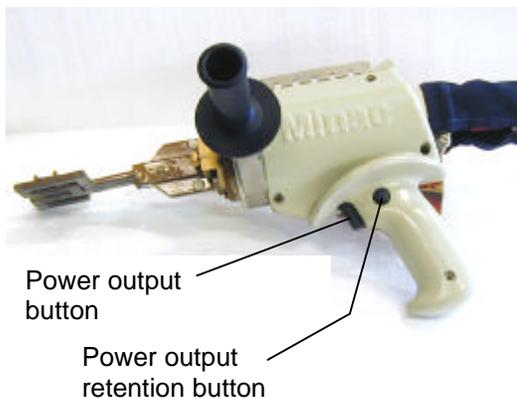

Figure 9. HHT 240S, power output and retention buttons
8. See figure 9/10. Be sure that the power output button on the HHT handle is not stuck in the POWER ON position. This also applies to ECU switches and buttons.